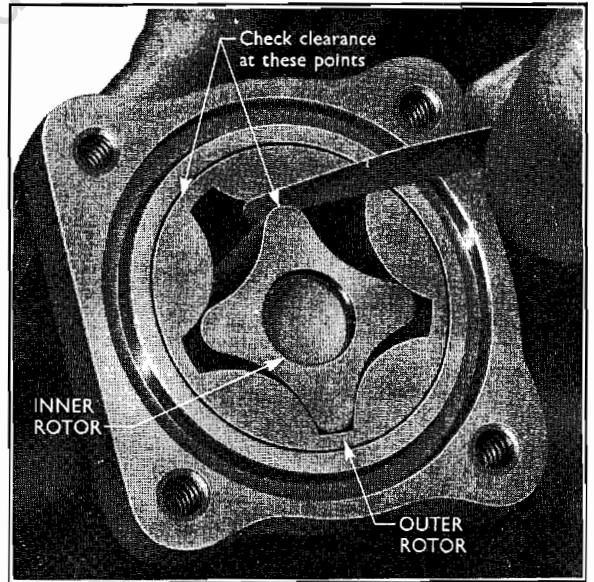

Fig. 4
4. Check the clearance between the lobes of the inner and outer rotors. This should be checked in two positions as shown in Figs. 4 and 6, and must not exceed 0.006 in. (0.152 mm.). Check the clearance between the outer rotor and the housing, this should not exceed 0.0075 in. (0.19 mm.).